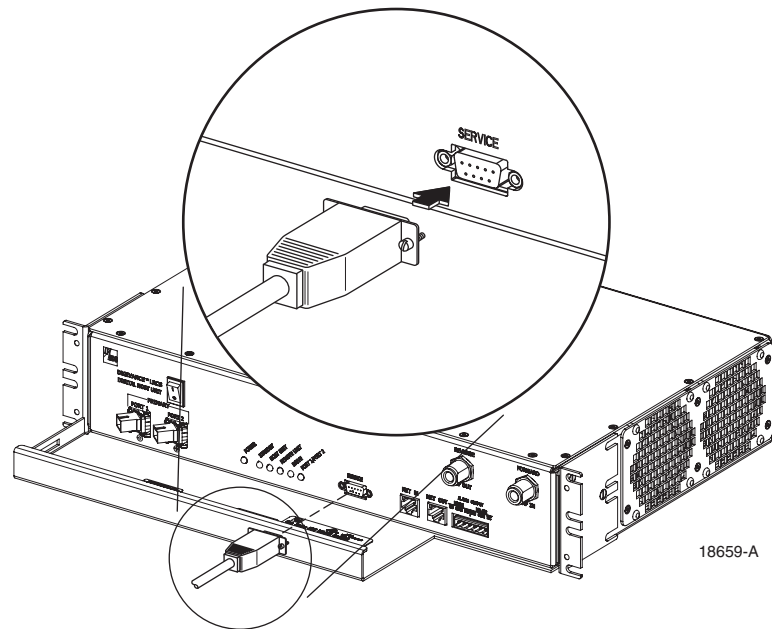

Figure 3-13. Service Interface Connection
1. Connect one end of the service interface cable (provided with HU) to the SERVICE port as shown in Figure 3-13.